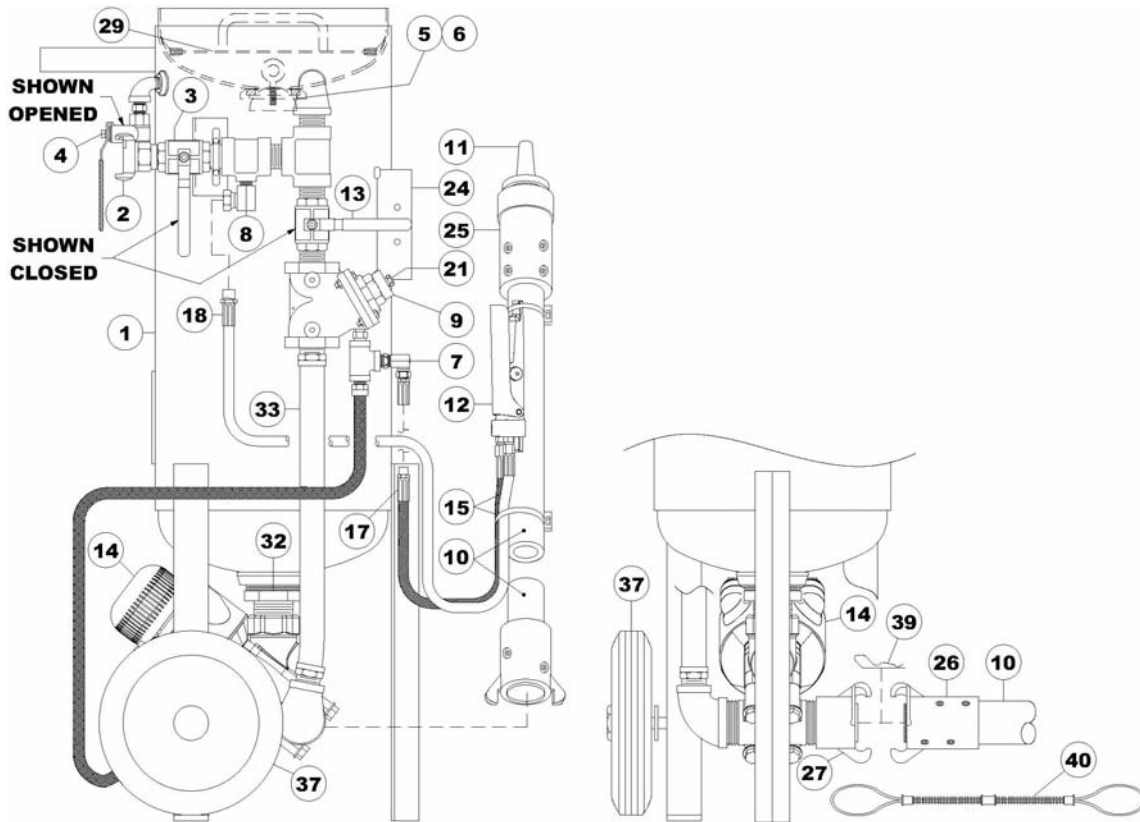

Figure 6.2 – Mini Abrasive Blaster with pneumatic blast controls
6.1 Abrasive Blaster Setup Procedure (see Figure 6.2)
6.2.1. Mini Abrasive Blast System (See Figure 6.2)
- 6.2.1.1. Close the air inlet ball valve (#3). The ball valve is closed when the handle is fully turned to the position shown in Figure 6.2(a) (handle perpendicular to body). The handle tab will bottom against the ball valve body in the closed position.